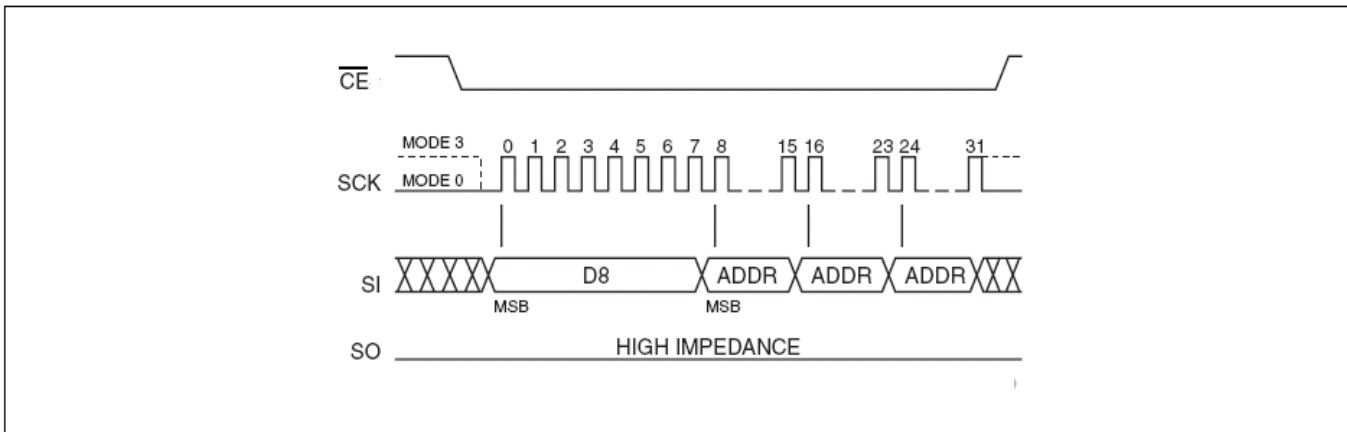

Figure 17: 64K-byte Block Erase Sequence
-A₀]. Address bits [A_{MS}-A₁₆] (A_{MS} = Most Significant address) are used to determine the block address (BA_x), remaining address bits can be V_{IL} or V_{IH}. \overline{CE} must be driven high before the instruction is executed. The user may poll the BUSY bit in the Software Status Register or wait T_{BE} for the completion of the internal self-timed Block Erase cycle. See Figure 17 for the Block Erase sequence.